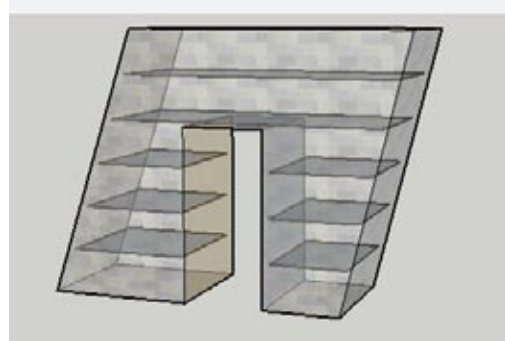

Figure 6-40
12. For each remaining group, edit and intersect it, and then offset the edges to create the floors. Figure 6-40 shows the results in X-Ray view.